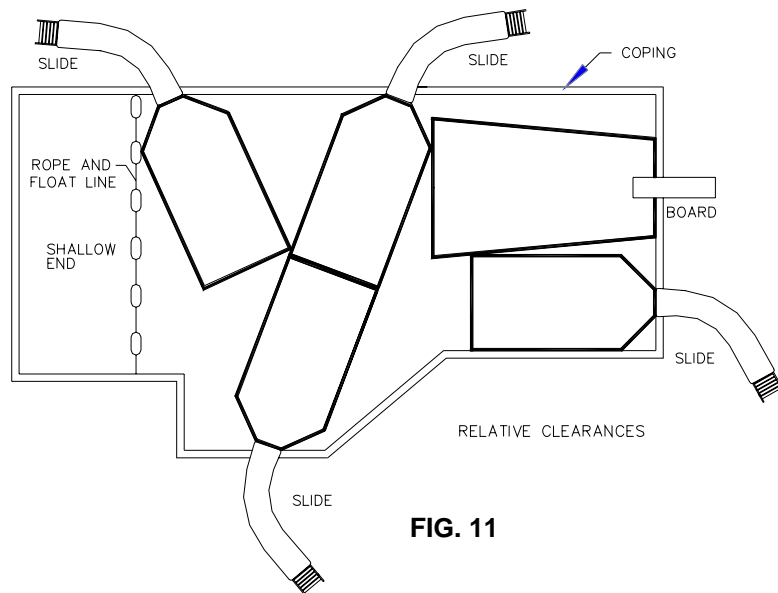

FIG. 11
- C. The minimum clearance area of a slide or diving board shall not intersect any coping or rope and float line as shown in **FIG. 11**. The minimum clearance area of a slide or diving board may intersect each other provided that they are not used simultaneously.